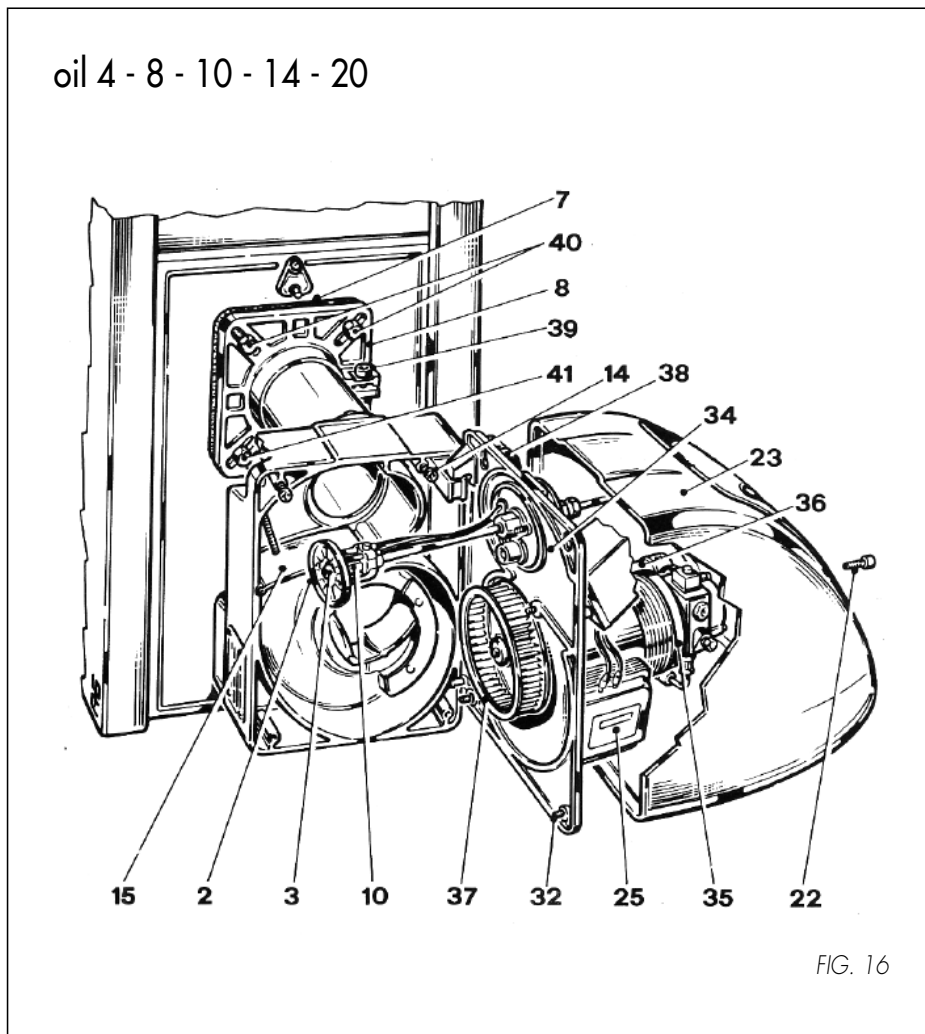

FIG. 16
- loosen screw (22) and remove cover (231);
- loosen lower screws (32) completely; (on burners OIL 14, 14LP, 14/2, 20 and 20/2 also the central screw shall be loosened);
- loosen upper screws (14) only partially;
- release support plate (34) by pulling up; secure the plate in the housing purposely provided, as shown in Fig. 16.